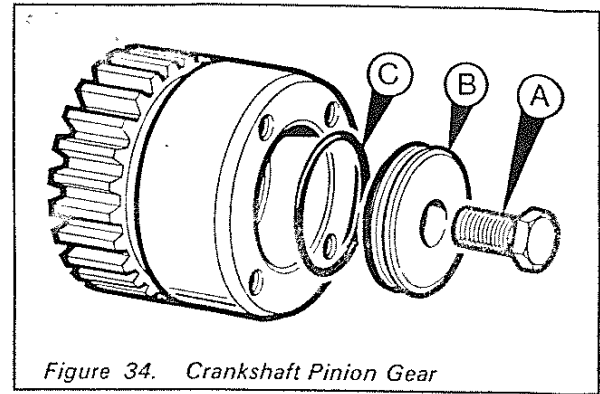

Figure 34. Crankshaft Pinion Gear
Items (A), (B) and (C) in 15. above are illustrated in Figure 34 on page 29.